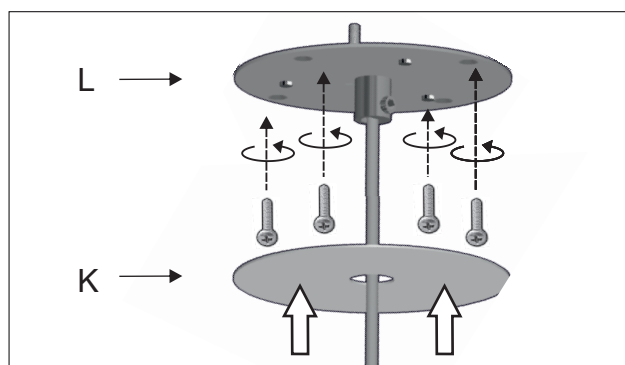

Figure 11
11 - Attach the mounting bracket (L) to the ceiling and install the metal base (K) back in place. Figure 11